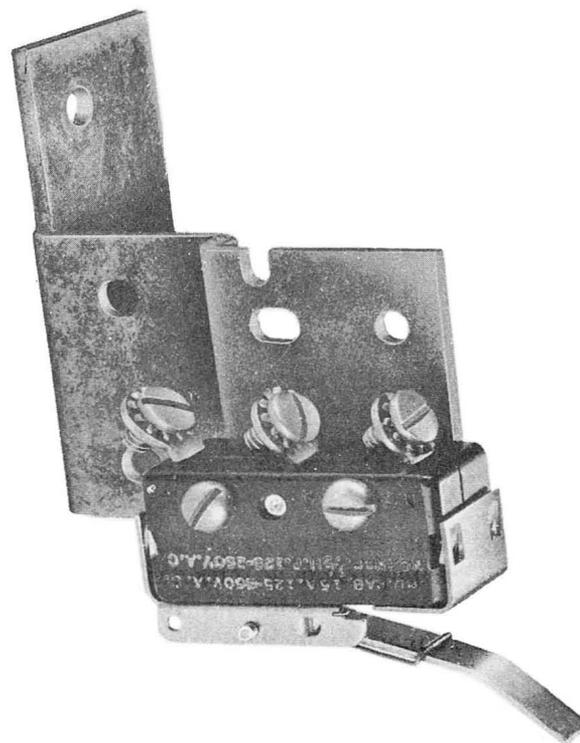

Fig. 11 - 1A Alarm Switch
4.03 A 1A switch kit assembly is available for installation in the 1A1 coin telephone. (See Fig. 11.) The 1A switch kit consists of two micro-switches equipped with brackets, actuators and screws. The P-25E056 switch is designed to mount over the vault. The actuator of this switch ex-